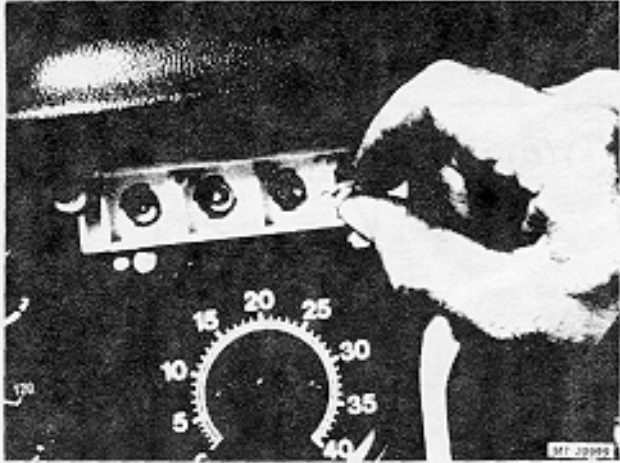

Fig. 12 Removing Bulb from Face of Cluster
1. Remove instrument cluster cover screws (5) and remove cover to expose warning and indicator lights.
2. Grasp bulb and pull straight outward to remove plug-in type bulb from socket (Figure 12).